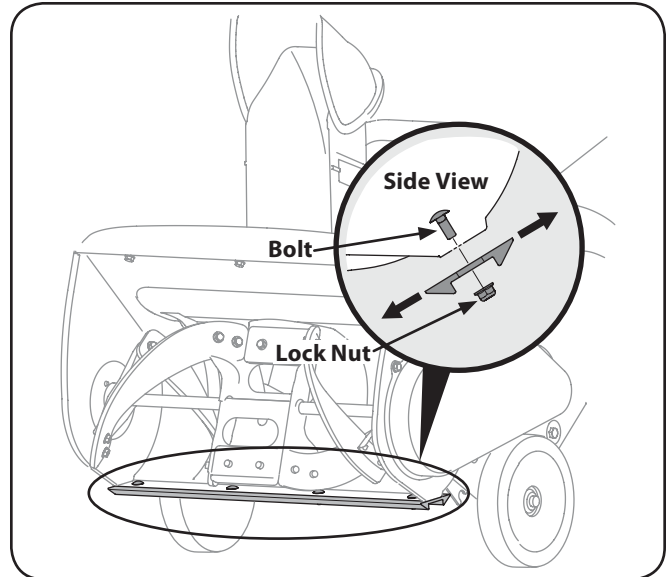

Figure 6-1
2. Loosen the four lock nuts and bolts which secure the shave plate to the housing. See Fig. 6-1. Move the shave plate to the desired position and retighten the nuts and bolts securely.